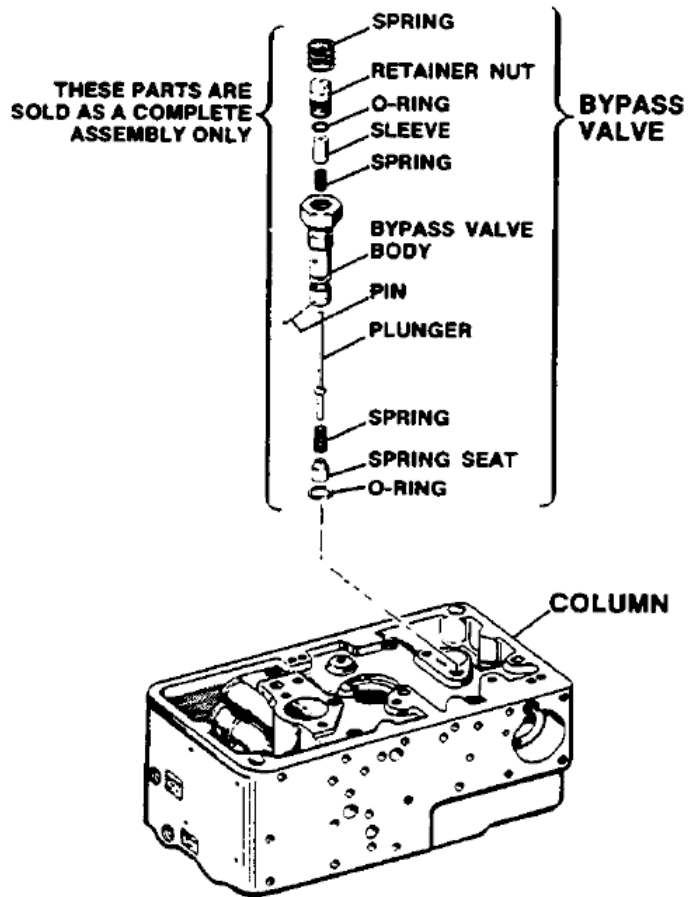

Figure 5-50. Bypass Valve
26. Clean, assemble, and install bypass valve in position as shown in Figure 5-50.